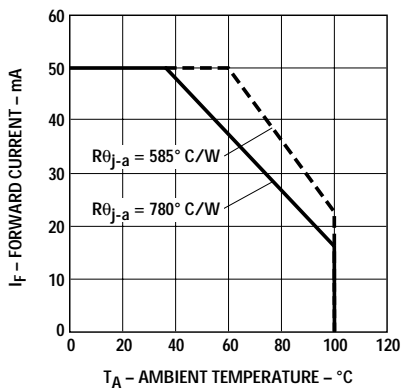

Figure 6. Amber, Red maximum forward current vs. ambient temperature.
1. Derate linearly as shown in Figures 6 and 7.